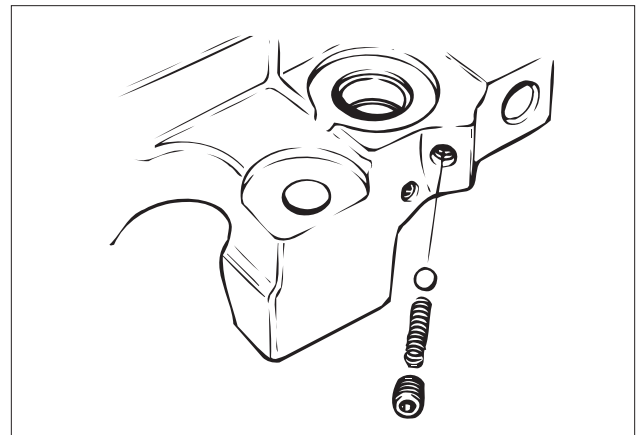

FIG. 37
1. Remove hex socket pipe plug. Be careful during final turns to avoid losing the spring and ball. Remove spring and ball (Fig. 37).